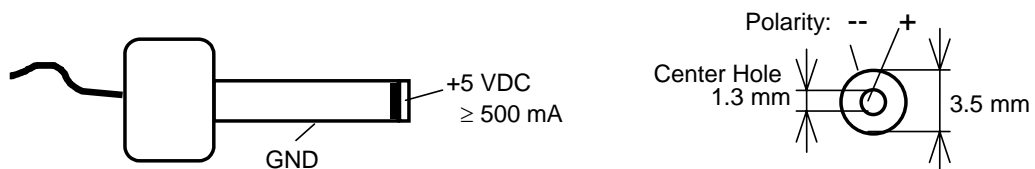

Figure 4: Power Connector
- Using the included 5V DC power adapter, connect the power socket X1 on the phyCORE® module to a power supply (*refer to Figure 4 for the correct polarity*).